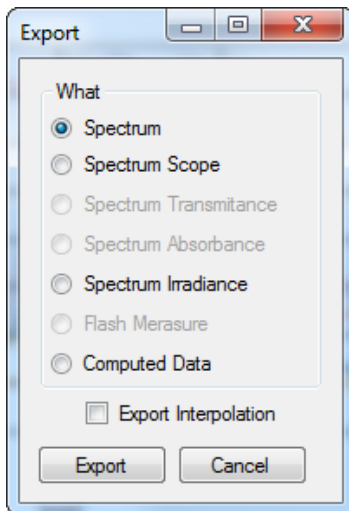

Fig. 35 Export options.
**Spectrum** (Fig. 35) – all raw scope data for entire range of measured wavelengths are exported including data for the dark scan.